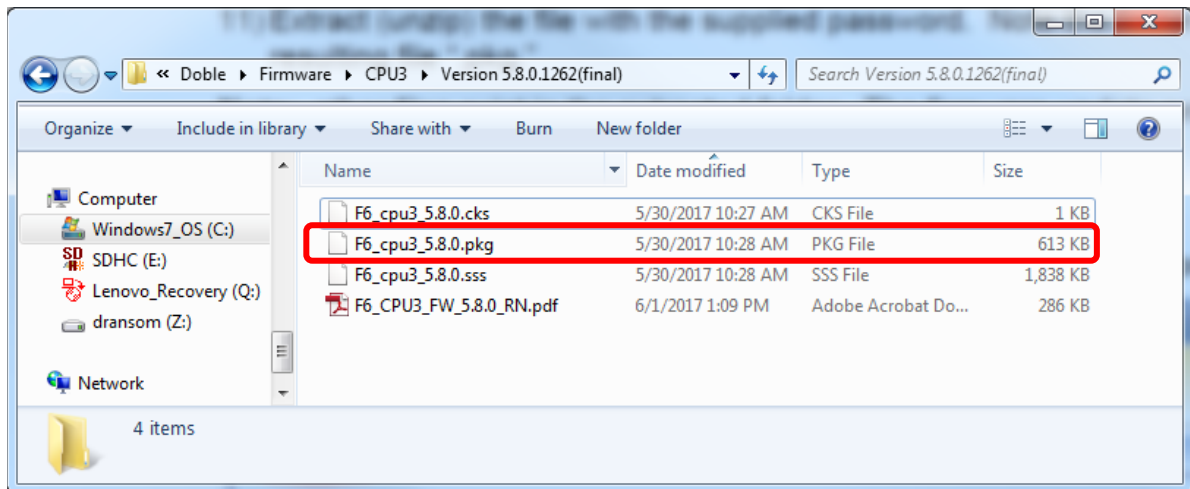

Figure 3. Unzipped F6 CPU3 firmware files and release notes
- 14) Make a note of this folder location and the resulting file “.pkg.” Figure 3 shows an example of the unzipped firmware file (and the unzipped release-notes file)